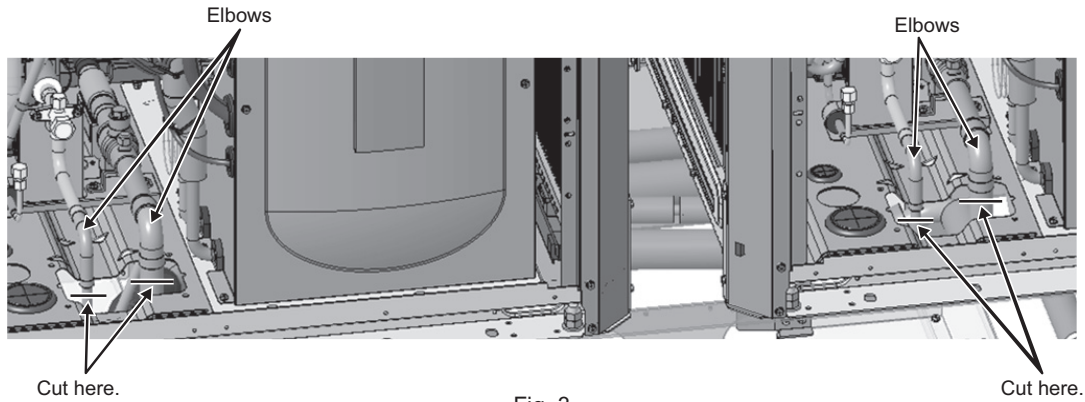

Fig. 3
- (2) Cut the pipes below the elbows connecting to the BVs, and remove the cut pipes from the elbows. (Four brazing removal areas: Fig. 3)